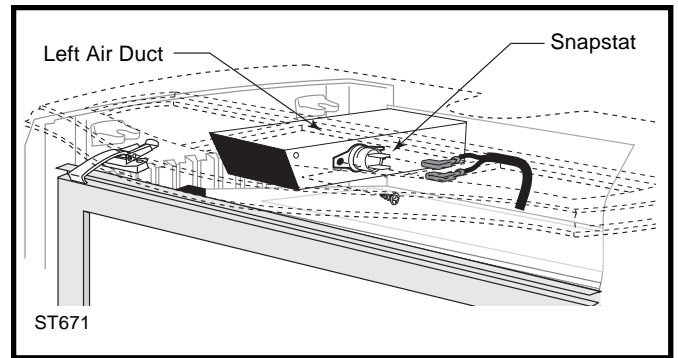

**Fig. 17** Remove the snapstat and grommet from the bracket and insert the grommet into the inner shroud.
6. Connect snapstat leads. Disconnect the snapstat module from the leads inside the snapstat bracket. (Fig. 17) Bend open the snapstat bracket. Use needle nose pliers to remove the black plastic grommet from the bracket. Discard the bracket. Insert the grommet and wires into the large hole at the bottom right corner of the inner shroud. Feed the snapstat wire leads through the grommet into the stove interior. Connect the two wires to the two snapstat extension leads attached to the inner shroud or, on some models, in between the inner and outer shroud.